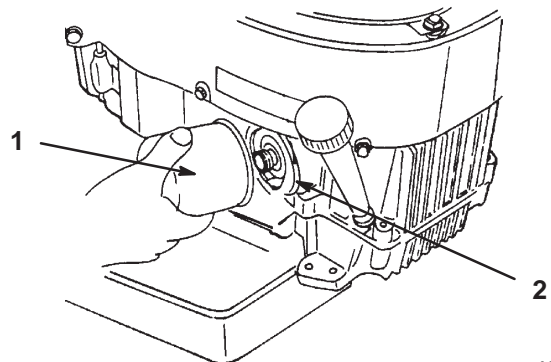

Figure 39
2. Remove the old filter (Fig. 39).
3. Apply a thin coat of new oil to the rubber gasket on the replacement filter (Fig. 39).
4. Install the replacement oil filter to the adapter. Turn the oil filter clockwise until the rubber gasket contacts the filter adapter, then tighten the filter an additional 3/4 turn (Fig. 39).